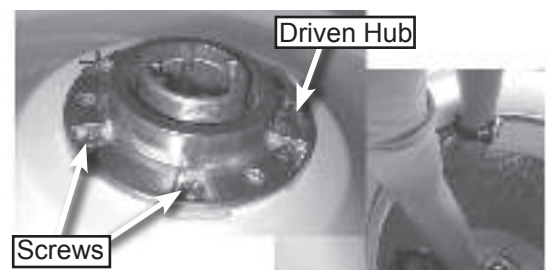

Figure 4
4. Remove six (6) screws from basket driven hub.
IMPORTANT: Remove the screws slowly if using a powered screwdriver. Hold up on basket while removing the last two (2) screws to avoid stripping out threads. See figure 4.